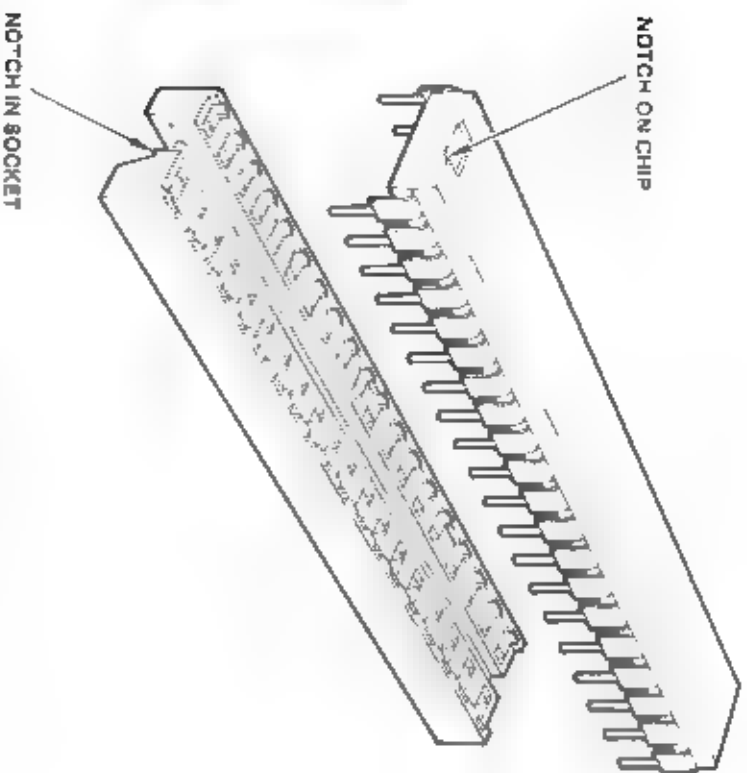

Figure 6-2. inserting the Math Coprocessor
4. Install the chip by aligning the coprocessor pins with the socket connectors. Be sure the notch at one end of the chip faces the notch on the socket (Figure 6-2). Press firmly